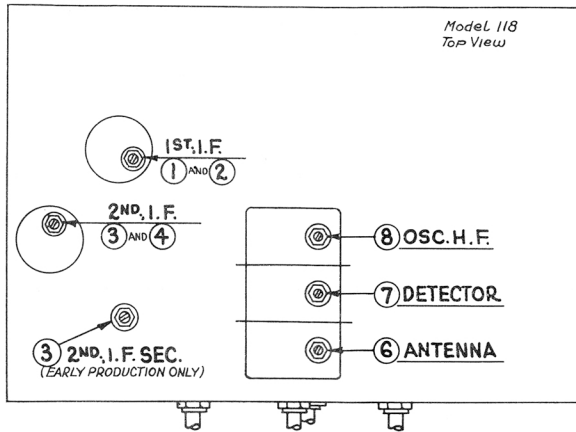

Fig. 23
Set the wave switch on the Signal Generator at 260 K.C., and the dial of the receiver at 55. Turn on the set (volume full on), and the Signal Generator. Now adjust the 1st I.F. Primary and Secondary condensers (Nos. ① and ② in Fig. 23) and the 2d I.F. primary and secondary condensers (③, and ④) to give maximum reading on the output meter. The I.F. primary condenser is adjusted by turning the screw on top of the I.F. transformer and the secondary is adjusted by turning the nut. The I.F. transformers are in the smaller metal "cans." The screw and nut are reached through the hole in top. If the needle on the output meter goes off